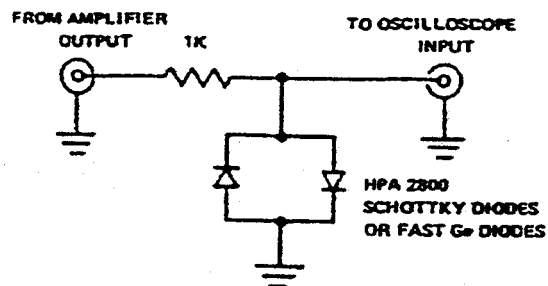
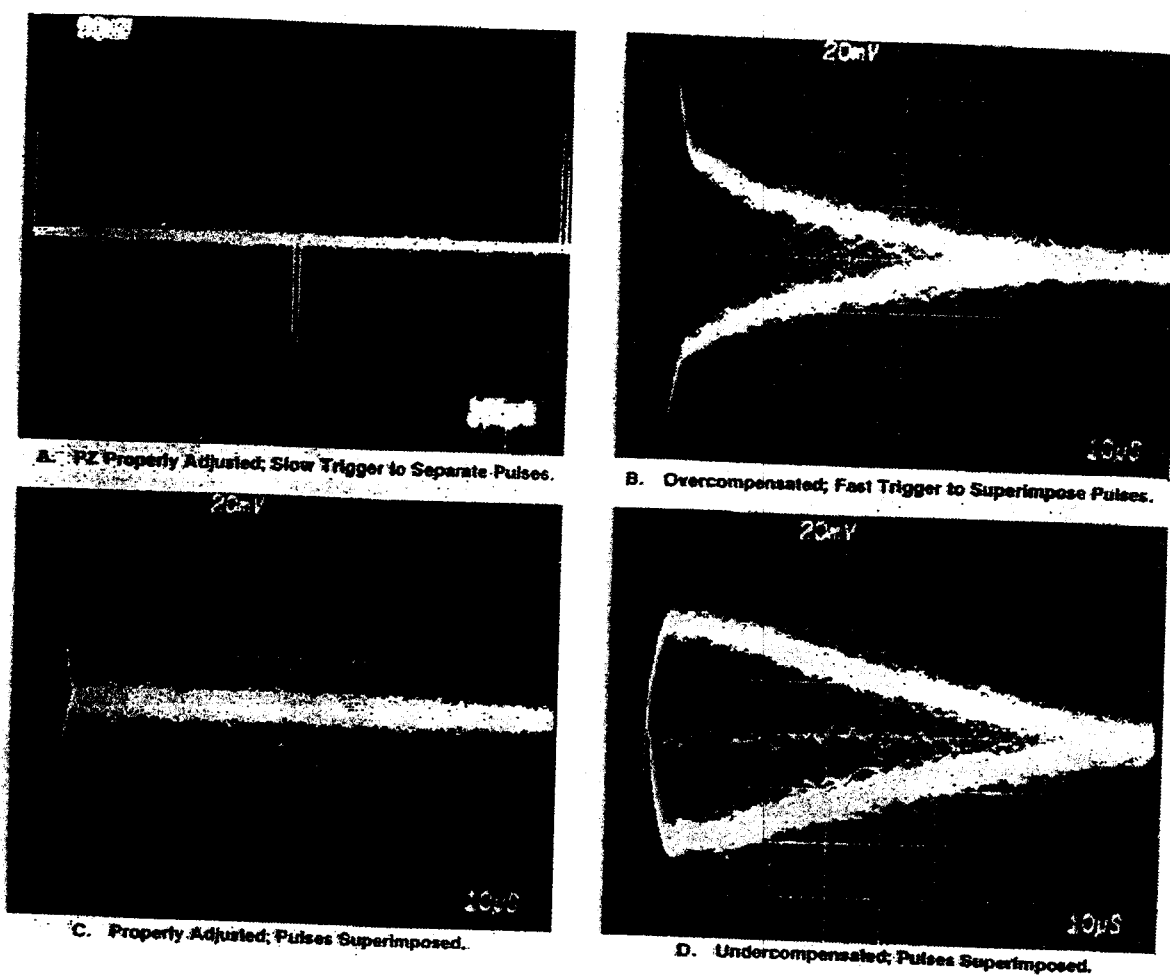

Fig. 4.3. A Clamp Circuit that Can Be Used to Prevent Overloading the Oscilloscope Input.
Fig. 4.4. Pole-Zero Adjustment Using a Square Wave Input to the Preamp.
The oscilloscope used must be dc-coupled and must not contribute distortion in the observed waveforms. Oscilloscopes such as Tektronix 453, 454, 465, and 475 will overload for a 10-V signal when the vertical sensitivity is less than 100 mV/cm. To prevent overloading the oscilloscope, use the clamp circuit shown in Fig. 4.3.
A more precise pole-zero adjustment in the 572A can be obtained by using a square wave signal as the input to the preamplifier. Many oscilloscopes include a calibration output on the front panel and this is a good source of square wave signals at a frequency of about 1 kHz. The amplifier differentiates the signal from the preamplifier so that it generates output signals of alternate polarities on the leading and trailing edges of the square wave input signal, and these can be compared as shown in Fig. 4.4 to achieve excellent pole-zero cancellation.
- Observe the unipolar output of the 572A with an oscilloscope, triggered from the 572A Busy output. Adjust the PZ Adj control for proper response according to Fig. 4.4. Use the clamp circuit of Fig. 4.3 to prevent overloading the oscilloscope input.